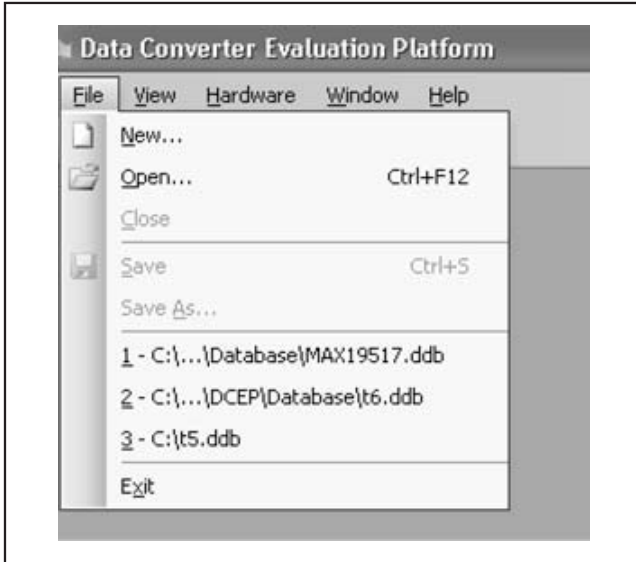

Figure 14. File Menu Options
**File Menu Options:** The options available under the **File** menu item are **New**, **Open**, **Close**, **Save**, **Save As**, a list of the four most recent databases, and **Exit** (Figure 14). **New** starts a new database and requires the definition of a device-specific module and database name. See the *Opening a New Database* section to find more details on this option. **Open** allows the user to select a previously saved database. **Close**, **Save**, and **Save As** are only available if a database is currently open. **Exit** saves and closes the current database and ends the application.
The software requires that a database and device-specific module be opened to define the ADC that will be evaluated. Select **File** → **New** to select a module and open a new database (Figure 14). After saving the initial database, the device-specific module does not have to be redefined.